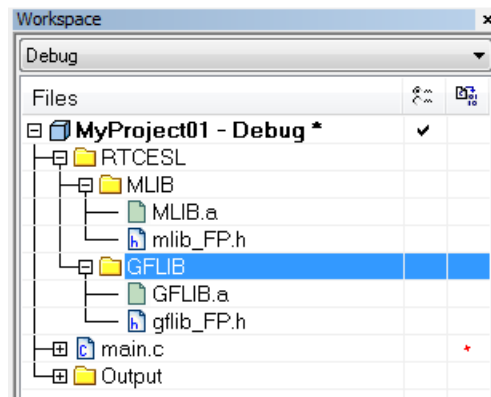

Figure 1-40. Project workspace
4. Click on the newly created node MLIB, and go to the main menu Project > Add Files... See Figure 1-40.
11. Now you will see the files added in the workspace. See Figure 1-40.